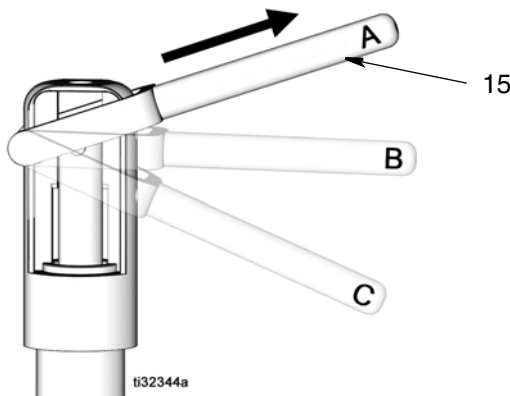

FIG. 17
FIG. 17 shows the handle position settings.
4. Connect the probe (16) to suction attachment. Put probe into the car engine. Open the ball valve (b) to begin sucking out oil.
6. Move handle (15) to the B level to relieve the pressure (FIG. 17).
7. After pressure is relieved, move handle (15) to C level (FIG. 17). The waste oil will flow into the tank.